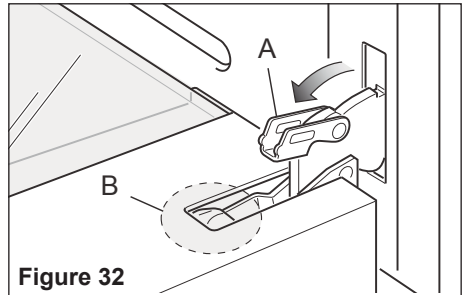

Figure 32
- Open the lever “A” completely on the left and right hinges (fig. 32).
- Gently close the door until left and right hinge levers “A” are hooked to part “B” of the door (figs. 32, 33).